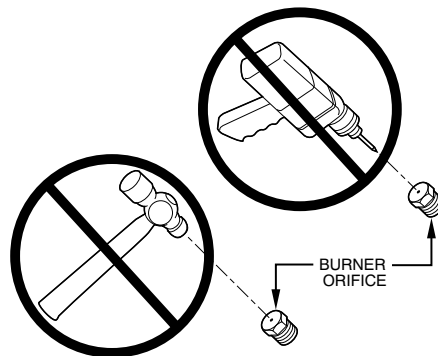

Fig. 62 – Orifice Hole
DO NOT redrill orifices. Improper drilling (burrs, out-of-round holes, etc.) can cause excessive burner noise and misdirection of burner flames. This can result in flame impingement of heat exchangers, causing failures. See Fig. 62.
- e. Move setup SW1-2 on furnace control to ON position to lock furnace in low-heat operation. See Fig. 62 and Fig. 39.